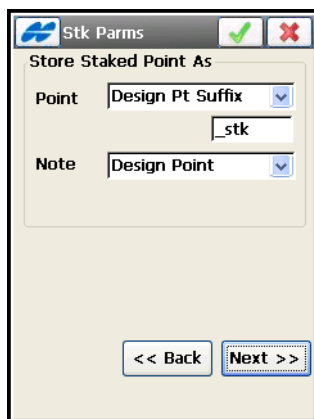

Figure 3-74. Stakeout Parameters - Second Screen
- **Next** – opens another *Stk Params* screen (Figure 3-74 on page 3-76).
The second (additional) *Stk Params* screen (Figure 3-74 on page 3-76) sets parameters to save staked points.